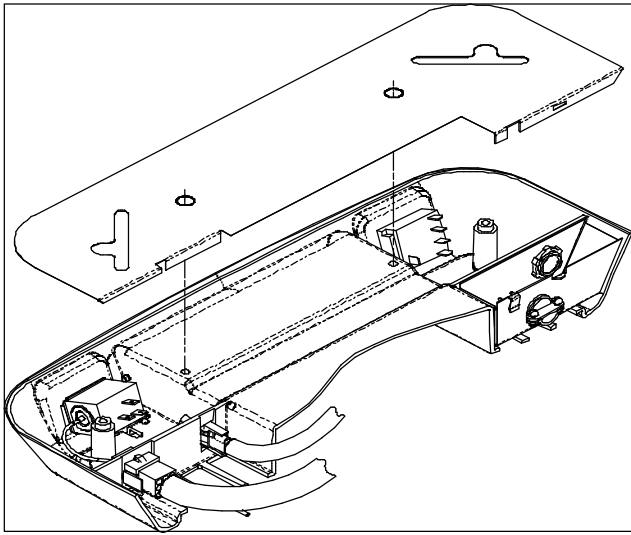

FIGURE 12
- E. Plug the roof top heat pump electrical conduit into the 9 position receptacle located in the thermostat side of the ceiling assembly. Plug the heater cord into the 2 position receptacle (See Figure 12).
- H. Place the metal control box shield over the thermostat, switch and field wiring boxes. Make certain that all wires are pushed into the control boxes or laying in the wireway between the thermostat and switch boxes and will not be pinched by the control box shield. Control box shield is properly installed when the two holes in shield are aligned with the two screw holes in the ceiling assembly chute (See Figure 12).
- J. The ceiling assembly shroud is curved to contour to a crowned ceiling. If installation is to a flat ceiling and gaps are present on the sides of the shroud, insert the four optional 3/4 inch screws (provided) through the mounting posts and secure them to the mounting frame above (See Figure 12, 13 & 14 for screw locations).